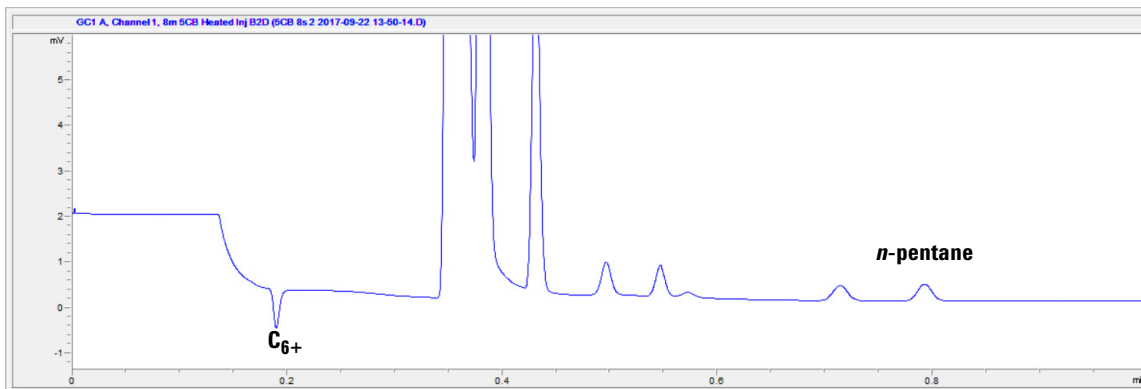

Figure 38 8m 5CB Column for natural gas analysis
- 1 Set backflush (BF) time to 0 sec. Start a run to obtain the peaks of all eluted components. Record the retention time (RT) of *n*-pentane and 2,2-dimethylbutane.
- 4 Finely tune the BF time, find the data point when the 2,2-dimethylbutane peak is observed. Decrease BF time by 0.1 sec steps, and start a run until the peak disappears (peak height < 3 μ V). Set BF time for this channel to that value minus 0.2 sec. A typical “clean cut” time range of 8m 5CB BF2D channel is approximately 0.3-0.5 sec. (See Figure 38 on page 84.)